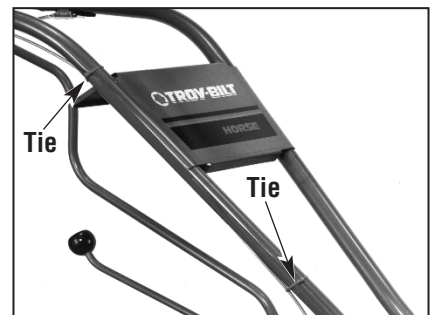

Figure 2-15: Plastic Ties placement on handlebars.
6. Use two plastic ties to secure the throttle cable to the right handlebar in two places (Figure 2-15). Loop each tie around the handlebar and cable (serrated side faces in) and pull the ties tight. Trim the ends.